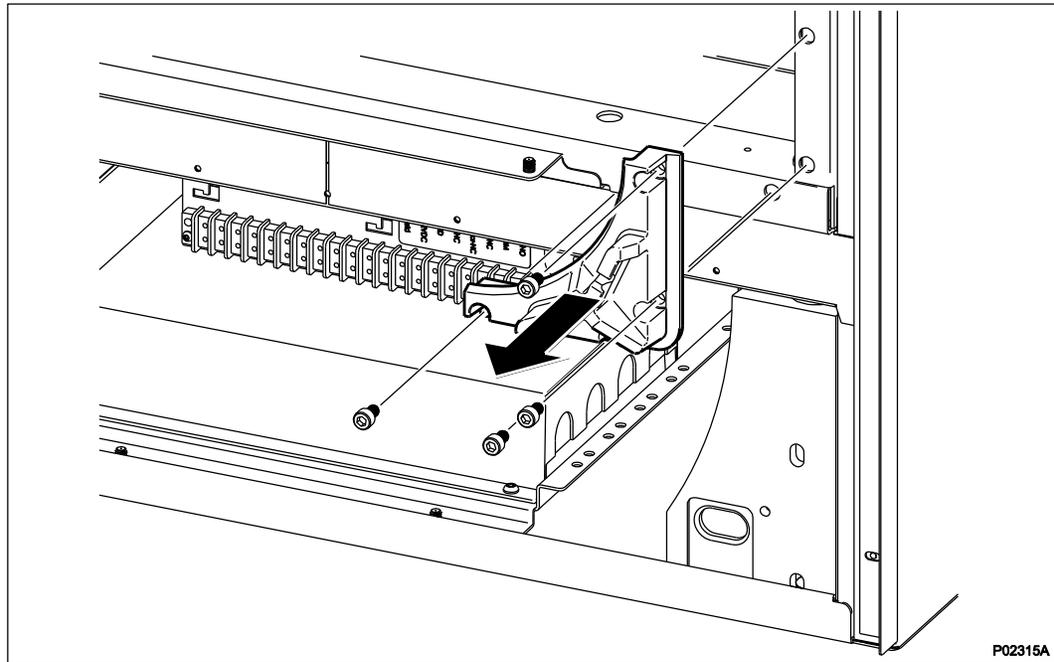

Figure 11 Remove Corner Pieces
3. Remove the corner pieces as in Figure 11.